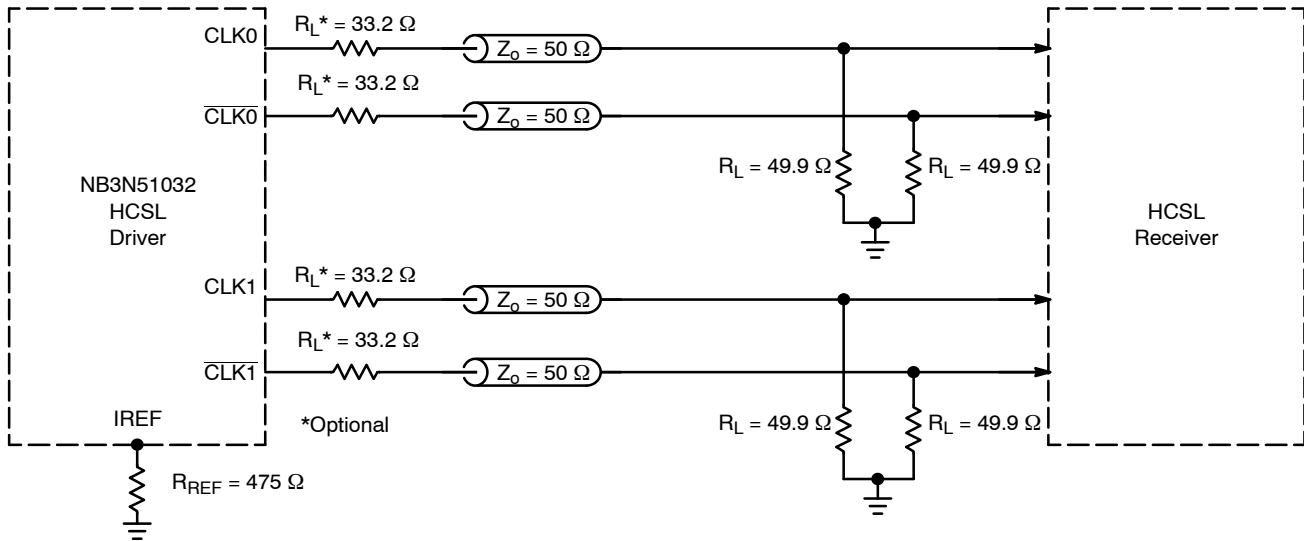
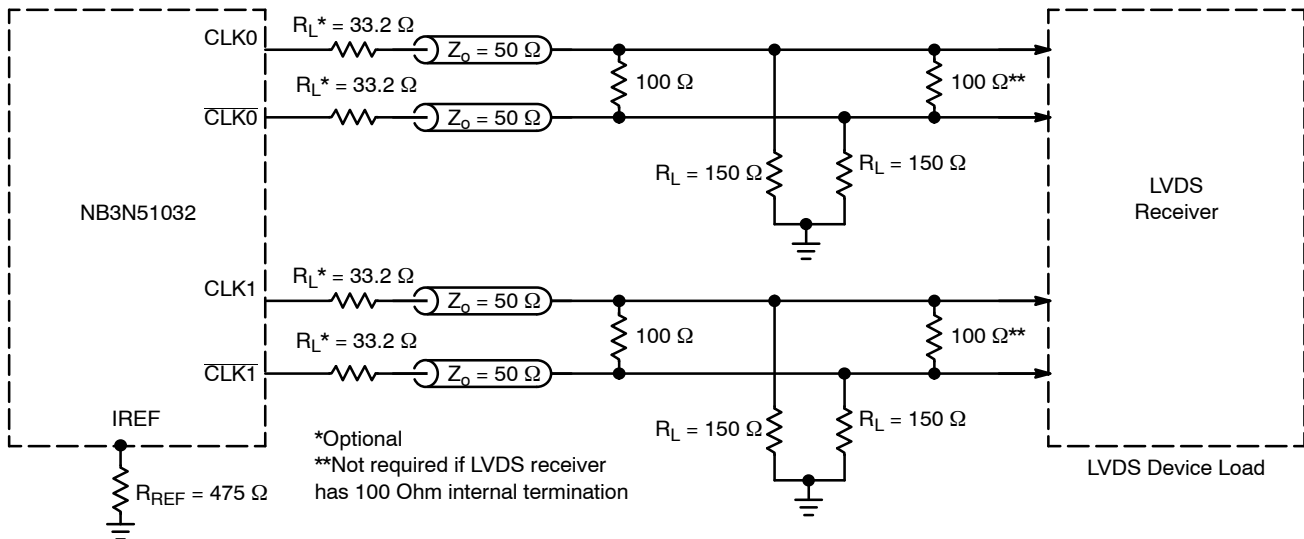

Figure 9. Typical Termination for Output Driver and Device Evaluation
Figure 10. Typical Termination for LVDS Device Load
4. VDDXD and VDDODA power pins must be shorted to power supply voltage VDD and GNDXD and GNDODA ground pins must be shorted to power supply ground GND. Measurement taken with outputs terminated with RS = 33.2 Ω, RL = 49.9 Ω, with test load capacitance of 2 pF and current biasing resistor set at 475 Ω. See Figure 9. Guaranteed by characterization.
9. VDDXD and VDDODA power pins must be shorted to power supply voltage  $V_{DD}$  and GNDXD and GNDODA ground pins must be shorted to power supply ground GND. Measurement taken from differential output on single-ended channel terminated with  $R_S = 33.2 \Omega$ ,  $R_L = 49.9 \Omega$ , with test load capacitance of 2 pF and current biasing resistor set at 475  $\Omega$ . See Figure 9. Guaranteed by characterization.
The outputs can be terminated to drive HCSL receiver (see Figure 9) or LVDS receiver (see Figure 10). HCSL output interface requires  $49.9\ \Omega$  termination resistors to GND for generating the output levels. LVDS output